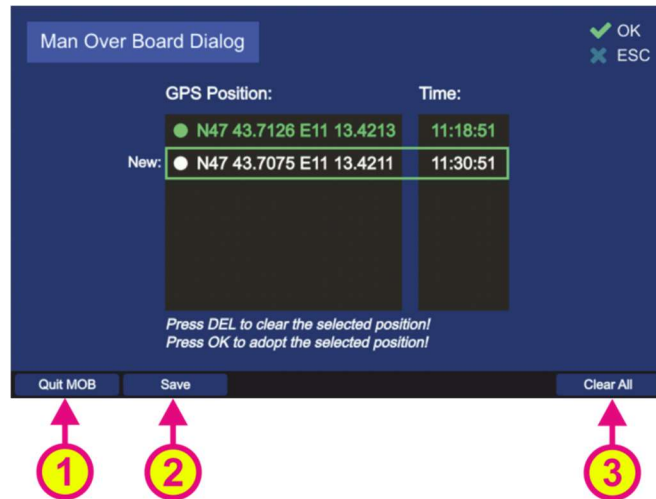

Figure 190. "Man Over Board" dialog
- Press "Quit MOB" (s. Figure 190, position 1) to quit the dialog. This hotkey is used to quit the MOB mode. By pressing this hotkey an extra dialog will appear for additional confirmation.
- Press "Save" (s. Figure 190, position 2) to save the current GPS position. Pressing this hotkey will save the new GPS position and move the line with the new position above the current position. Furthermore, the new position will be shown gray as it has not been adopted for MOB mode.
- Press "Clear All" (s. s. Figure 190, position 3) to delete all saved positions.